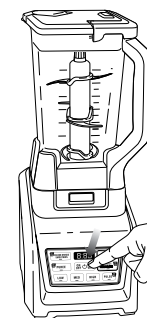

Fig. 8
- 14 When you have reached your desired consistency, stop the appliance by pressing the power button (⏻) and wait for the Stacked Blade Assembly to stop turning. **(Fig. 8)**